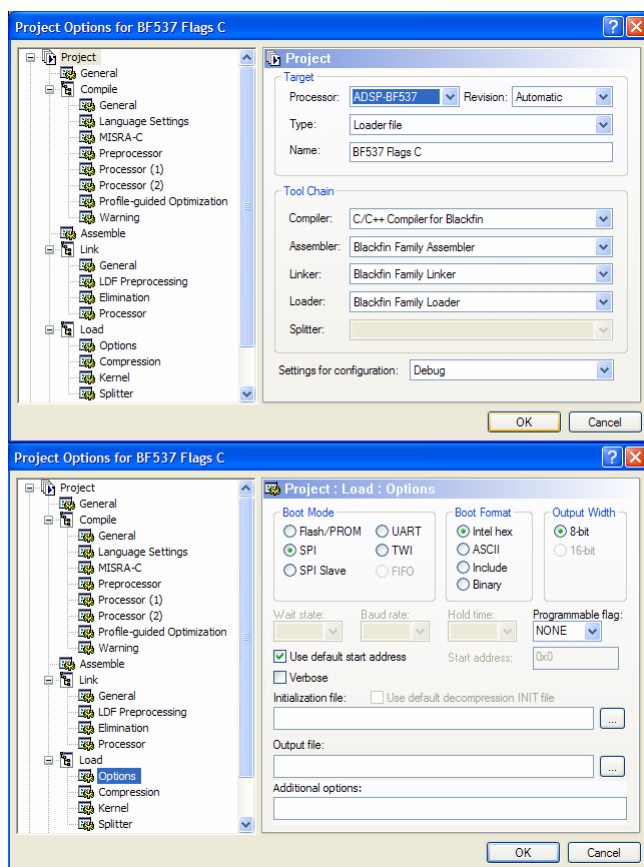

Figure 3. Specifying project and load options
3. Under the Type pull-down menu, select Loader file (as shown in the top portion of Figure 3).
4. In the project tree under the Load control (lower portion of Figure 3), click Options.